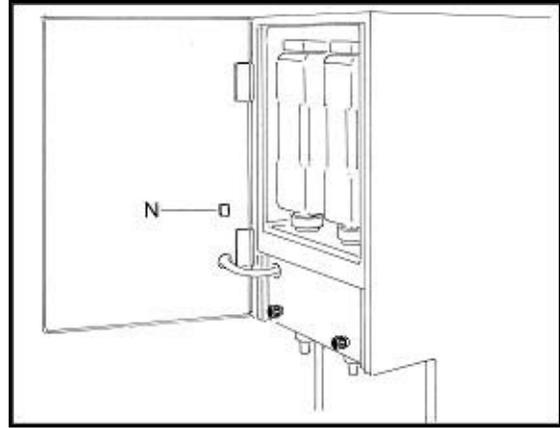

FIGURE 15
1. Turn the switch (N) to the "Off" position, see FIGURE 15.
4. Turn the switch (N) to the "On" position, see FIGURE 15.